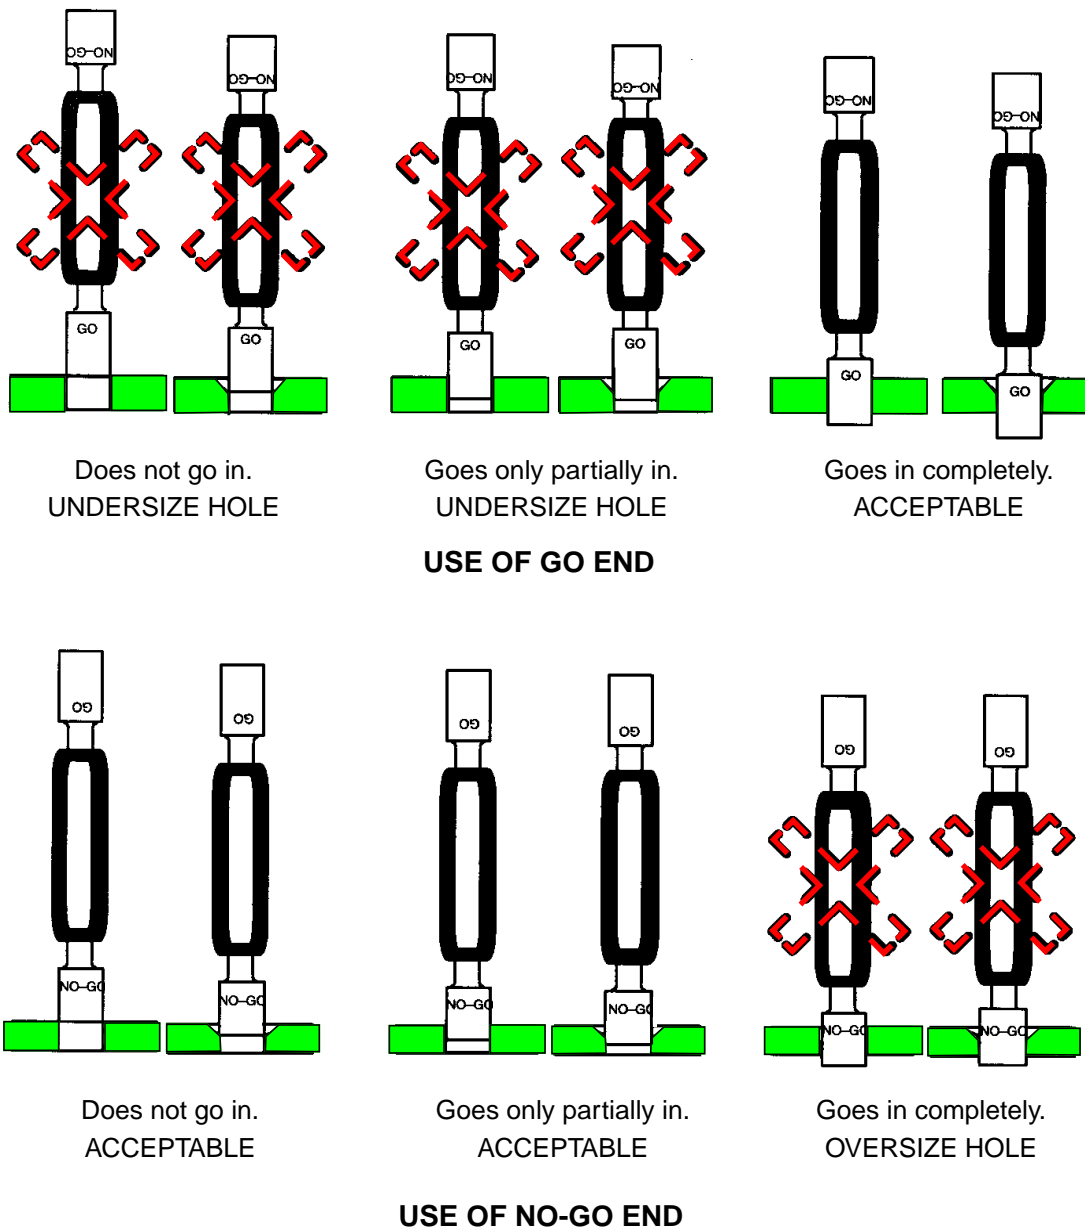

FIGURE 6 - USE OF GO/NO-GO GAUGES
- 5.3.1 Check selected fastener holes for conformance to the requirements of Table II using the applicable go/no-go gauge as follows (see Figure 6):